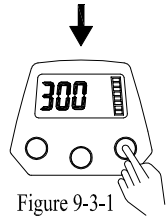
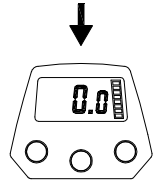

Figure 9-3-1
Figure 9-3-2
3. Press RESET again to return to the line-out state (Figure 9-3-1, Figure 9-3-2)